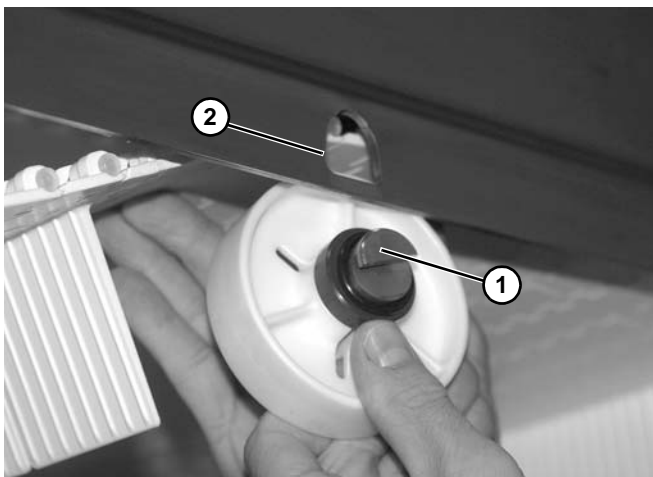

Figure 21
1. Insert the notched end of the return shaft (Figure 21, item 1) through the small hole (Figure 21, item 2) in the inside of the conveyor frame.